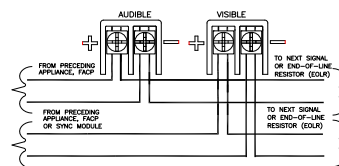

Figure 1 LED Strobe Wiring
- Connect speaker wires to common and positive of terminal block and select the power tap terminal for 1/8W, 1/4W, 1/2W, 1W or 2W; 25V or 70V as required (see Figures 1, 2, 3, 5 and Table 4). Each doubling of rated Watts increases sound output by 3 dBA.